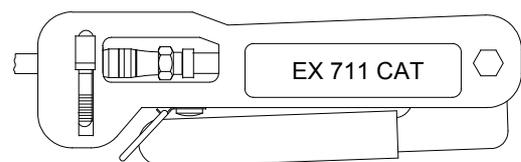

Figure 6
10. Compress the connector by closing the tool handle completely (Fig. 6).